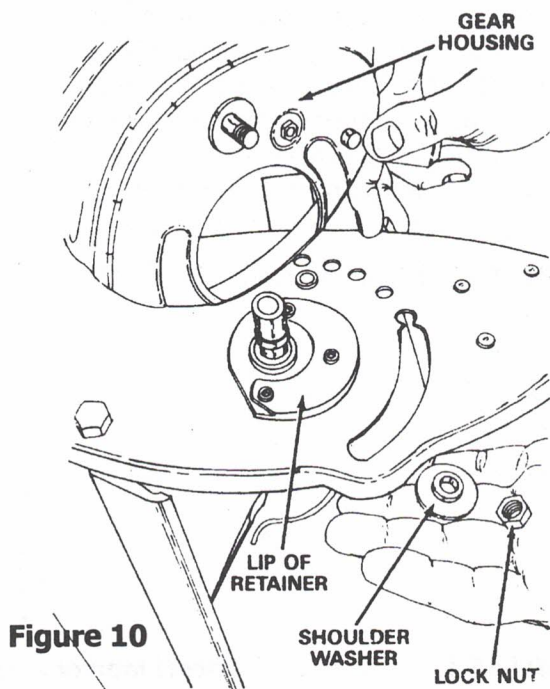

Figure 10
9. Using engine oil, lightly lubricate points indicated in Figures 10 & 11 on roller and between end plates and wheel dust covers. Periodic lubrication on these points will ensure smooth mechanical operation.